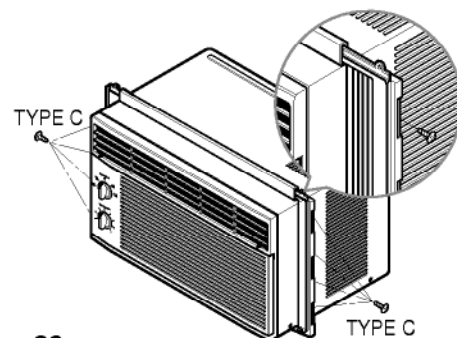

Figure 26
1. Insert the guide panels into the guides of the air conditioner. Fasten the curtains to the unit with screws (TYPE C), as shown Figure 26.